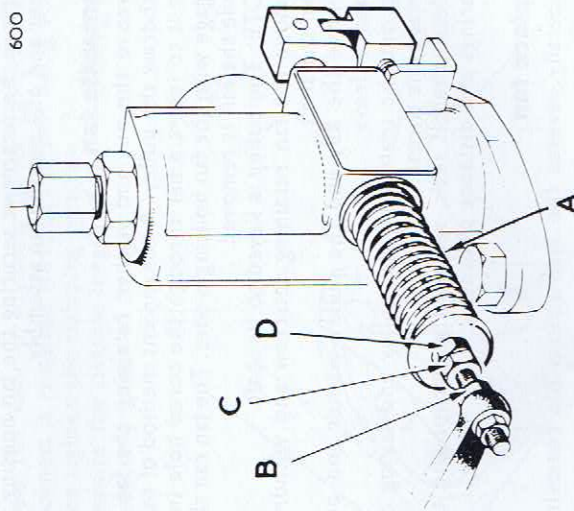

Fig. 20
70. To adjust speed control (Fig. 20, 21 & 22)